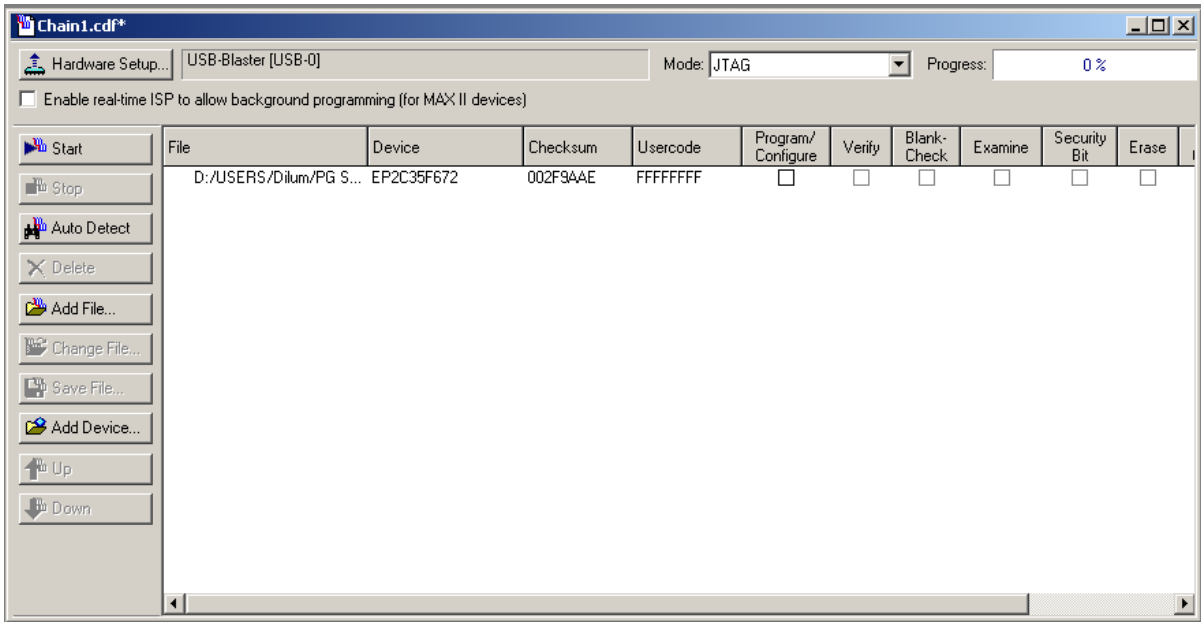

Figure 10 – The Programmer Window
Step 2: Select **Tools** → **Programmer** from the menu to reach the window in Figure 10.
Observe that the configuration file **binary_counter** is listed in the window corresponding to Figure 10.
Step 3: Now, press **Start** button in the window in Figure 10. A Blue LED on the board will light up when the configuration data has been downloaded successfully. If you see an error reported by Quartus II software indicating that programming failed, then check to ensure that the board is properly powered on.